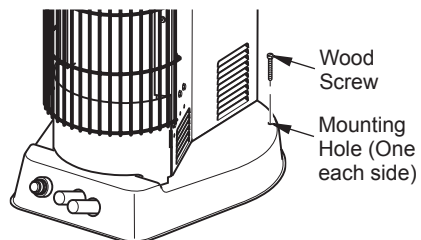

Figure 11 - Mounting Heater to Floor
5. Position heater over holes. Secure to floor with wood screws. See Figure 11.